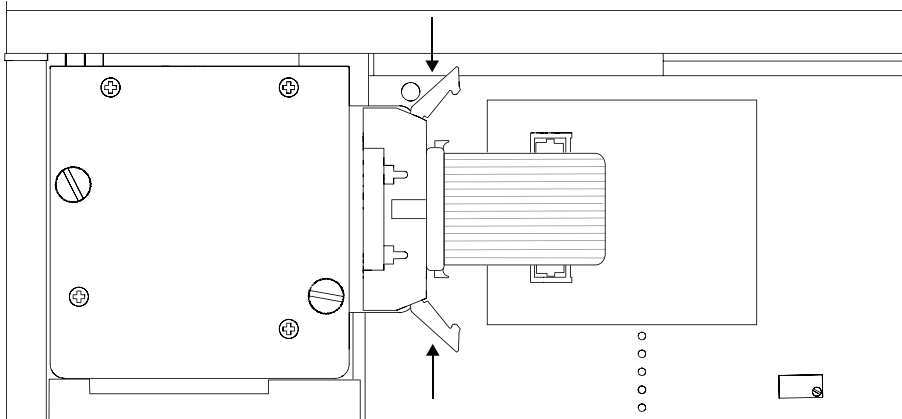

Figure 23 Pull out levers prior to pulling out cable
7. Pull out the two locking levers on either side of the 20-pin socket. Carefully pull out the blue pin connector (Figure 23).